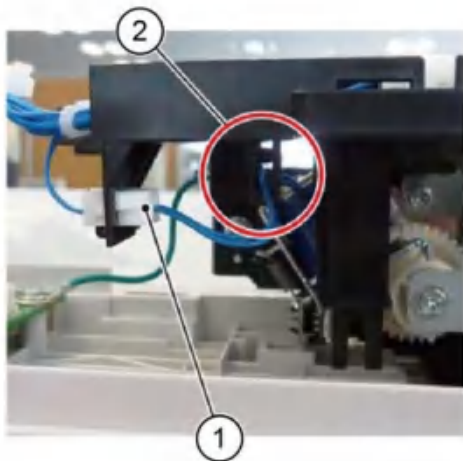

Figure 3 Solenoid harness
6. Disconnect the solenoid, **Figure 3**:
- a. Disconnect the connector (1).
- b. Remove the harness from the harness guide (2).